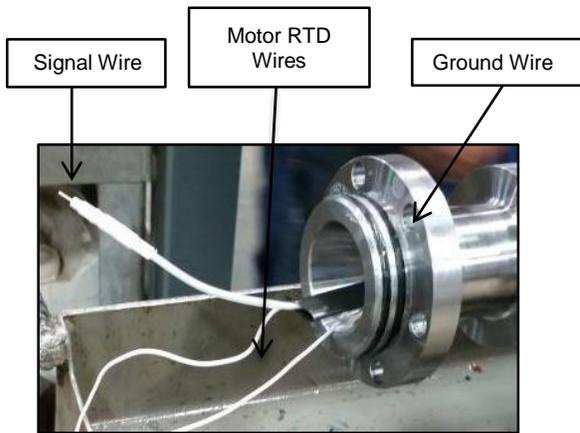
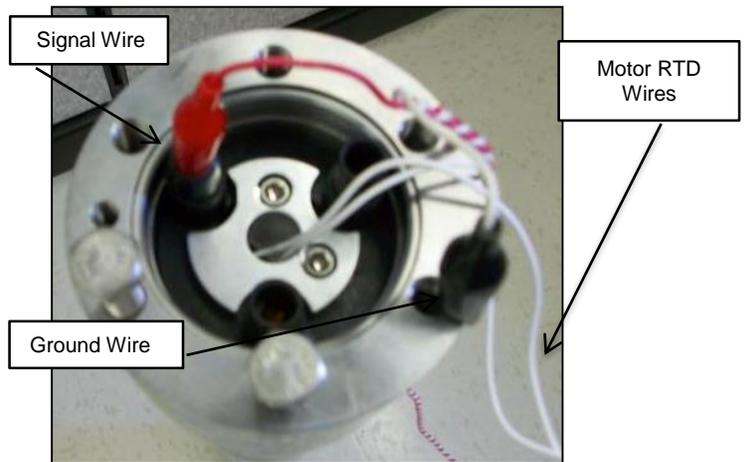

Figure 1: I-Wire Connection
Figure 2: WYE Connection
3. Connect a signal wire from the Surface Readout to the signal wire on the sensor in Figure 1, or if using a WYE Point adapter connect to one of the three pins inside the WYE adapter in Figure 2. Connect the ground wire to the sensor housing. Connect a motor RTD to the two white motor temperature wires.